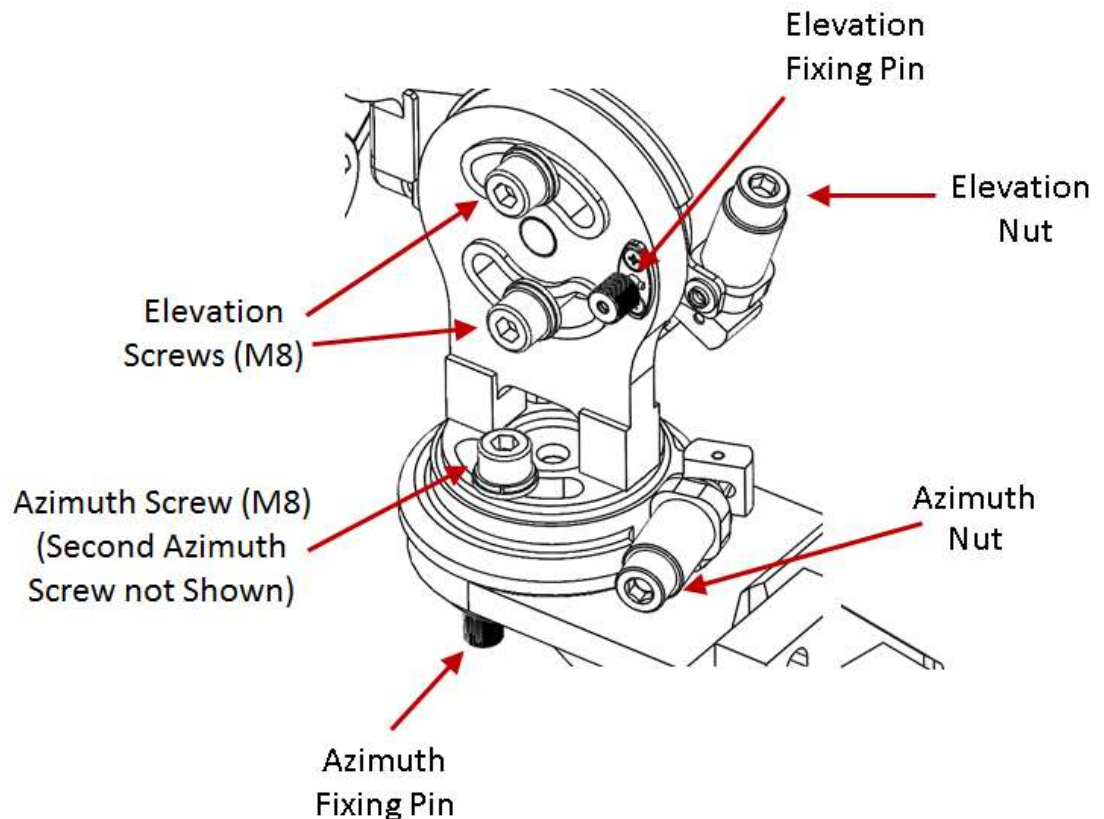

Figure 16: Installation and Alignment Device – Azimuth and Elevation Adjustment Tools
IP-20V includes an easy-install installation and alignment kit that enables you to perform a pole-mount installation in two easy steps, and to align the antenna by turning a few simple screws (*Figure 16*).
There are two M8 Elevation Screws and two M8 Azimuth screws, as shown in *Figure 16*. Before starting the alignment, make sure these screws are securely in place so they will not fall out during the procedure, but not too tight, so as to enable you to manually adjust the azimuth and elevation to the approximate position you want, before performing exact antenna alignment as described in the following sections.
- 1 Loosen the Azimuth Fixing Pin (Figure 16) by pulling it gently out of its groove and rotating it counter-clockwise.